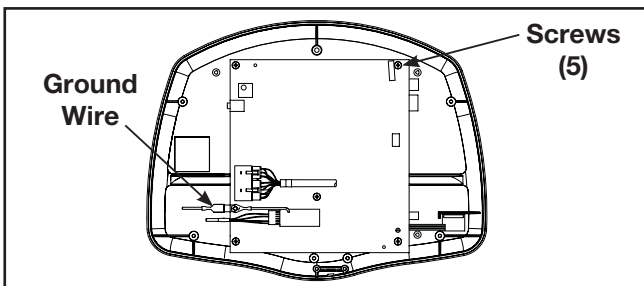

Figure 10
- A. Unplug the grounding wire from the main display PC board and set the back console cover aside. See Figure 10.
- B. Using a Phillips screwdriver, remove the five screws securing the main display PC board to the front console cover. See Figure 10.
- G. Using a Phillips screwdriver, reattach the five screws securing the main display PC board to the front console cover. See Figure 10.
- H. Plug the grounding wire to the main display PC board that was unplugged in step 8A. See Figure 10.